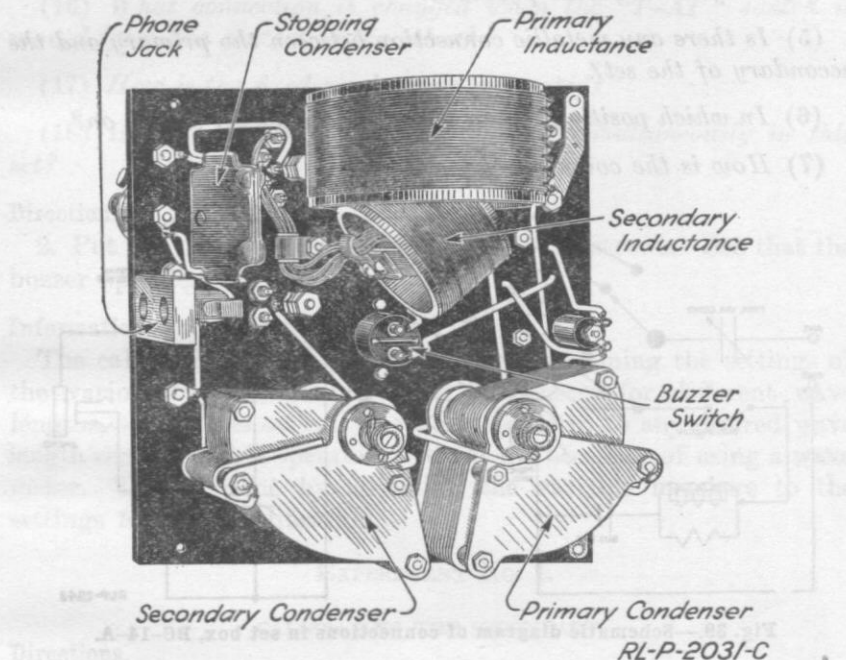

Fig. 38.—Rear of panel, set box, BC-14-A.
1. Release the latches and raise the lid of the set box. Take out the four screws in the corners of the panel and remove the panel from the box. (See Fig. 38.) Place the panel in some convenient position, and trace the wiring of both the primary and secondary circuits. Compare with schematic circuit diagram shown in Fig. 39.